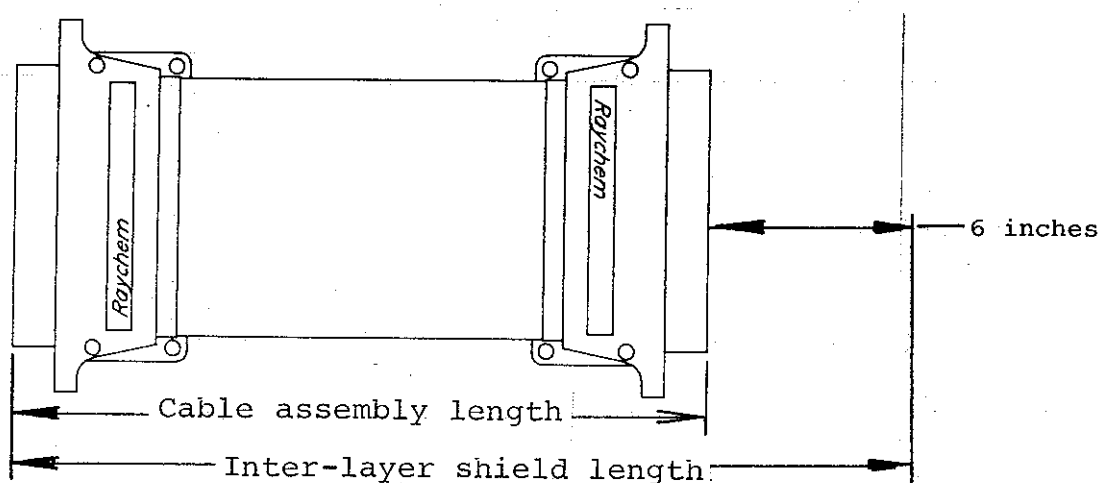

Figure 5. Length Determination of Inter-Layer Shield
2. Cut the inter-layer shield to the required length (Figure 5).